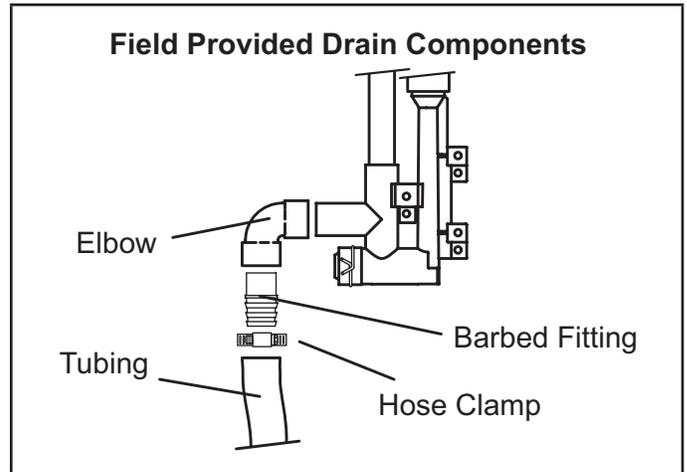

FIGURE 49
**NOTE** - Appropriately sized tubing and barbed fitting may be used for condensate drain. Attach to the drain on the trap using a hose clamp. See FIGURE 49